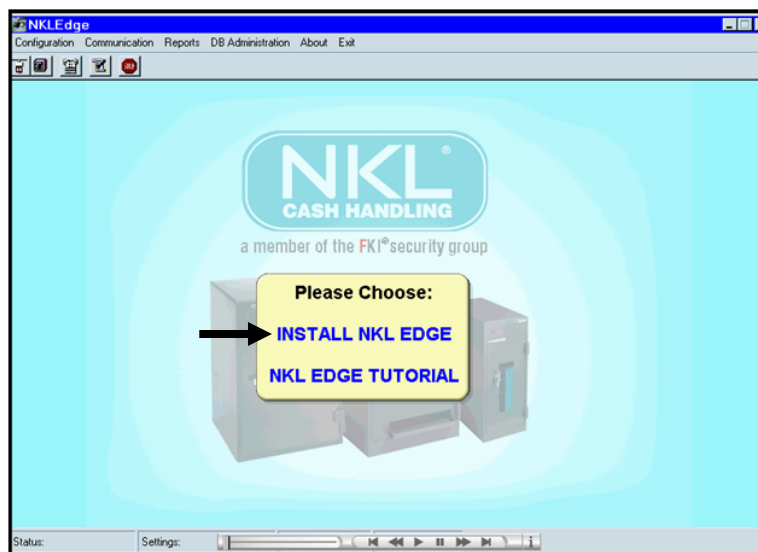

Fig 3.2
- 3) Once the install application has been launched, left-click **INSTALL NKL EDGE** (Fig. 3.2)